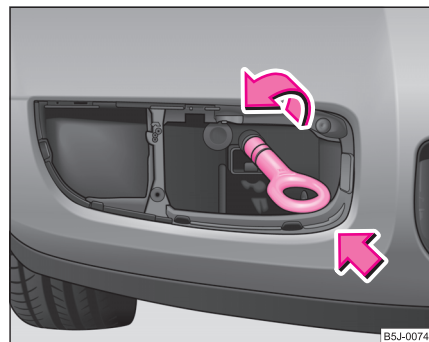

Fig. 164 Front bumper:
- Screw in the towing eye by hand to the left up to the stop ⇒ fig. 164.